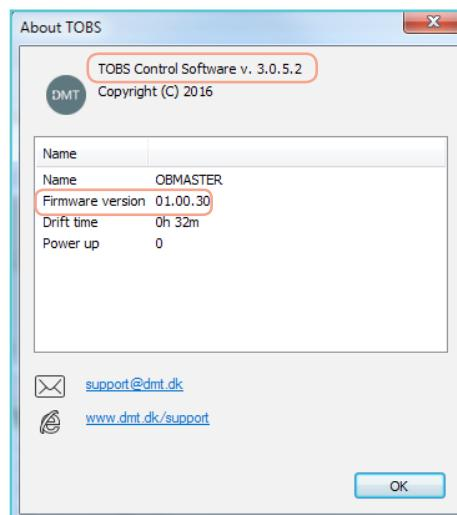

Figure 49: The About Tobs menu. Here the software version can be seen
1. **About TOBS:** Will list the TOBS Control Software version number as shown in figure 49 as well as other information relevant for DMT engineers.